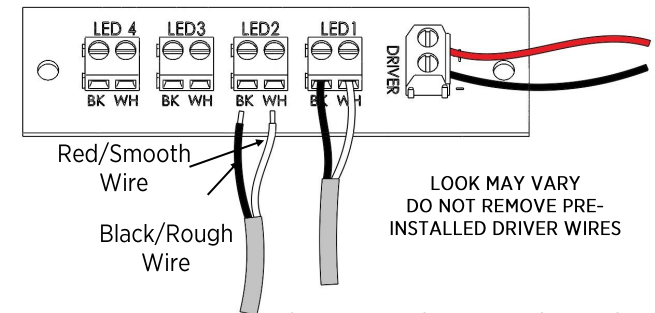

Figure 2
Step 6: Attach Pendant Light Body (C1) to the pendant chain using the pre-attached chain link (D3). (see Figure 2)